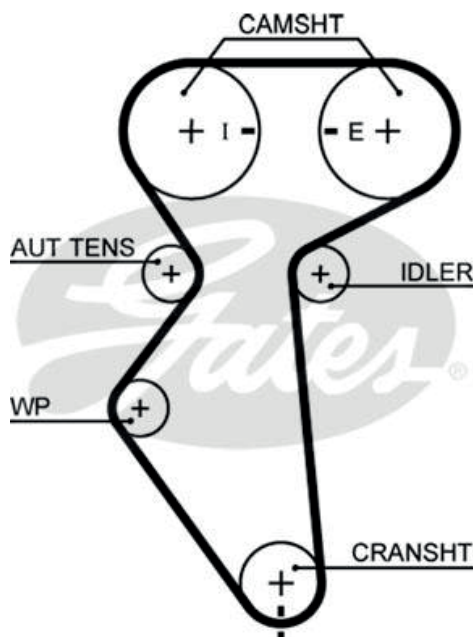

FIG. 1
On this drive, the main failure is caused by not rotating the water pump at installation, needed to set the correct belt tension. Although the drive is equipped with an 'automatic' tensioner, this still has to be set up correctly. This drive requires manipulation of the eccentric water pump, located below the tensioner (Fig. 1).
2. Put engine at TDC: rotate the crankshaft clockwise until the timing mark on the crankshaft gear is aligned with the notch at the bottom of the rear timing belt cover, and align the timing marks on the camshaft gears (Fig 1). Block the camshafts with Gates multi-lock tool (GAT 4695).